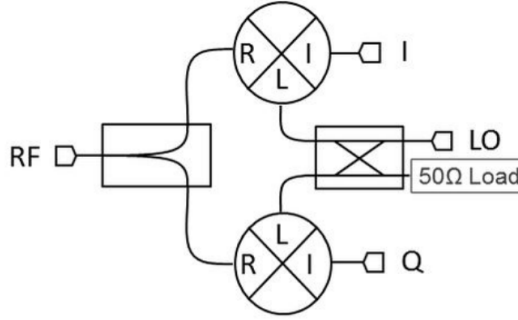

Figure 4: Internal structure of the IQ mixer consists of two simple mixers.
4.2 Carrier(LO) Leakage
Carrier(LO) Leakage is caused by DC-offsets in both I and Q ports of the mixer. This offset is caused by a conversion loss imbalance between the two mixers which are inside the IQ mixer shown in Figure 4.